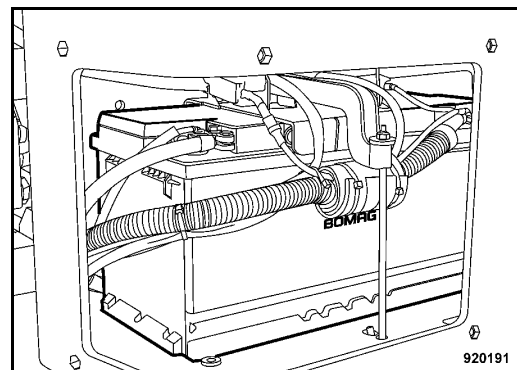

Fig. 154
- Clean battery and battery compartment (Fig. 154).